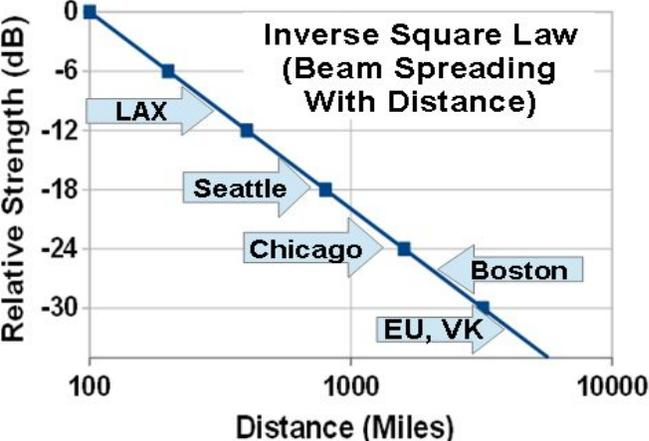

Fig 37 – Reduced Signal Loss to Closer Stations
**Inverse Square Law** Fig 37 shows relative path loss vs distance. Stations we're likely to work by NVIS are in the range of a few hundred miles or less; Fig 37 shows that stations around LAX are 8 dB closer than those in Seattle or Phoenix, and 14 dB closer than those around Chicago. For contesting and DX chasing, we want maximum gain to those distant locations, because inverse square law helps us work the closer ones; the design choices I'll make with horizontal antennas for 40M and 80M will be to get them as high as possible, compromising NVIS performance for maximum DX performance.